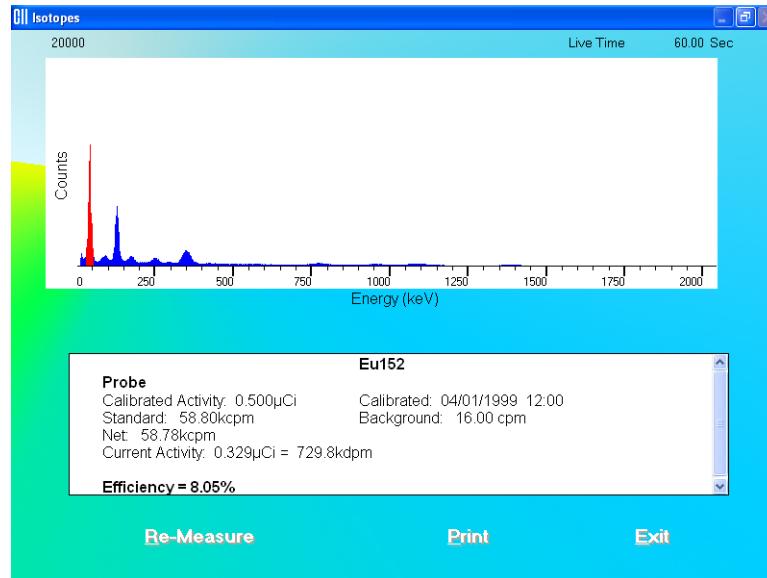

Figure 6-13
10. After the measurement is completed, the screen appears similar to that shown in Figure 6-13. The results in the lower part of the screen show measured counts and calculated values for activity and efficiency.